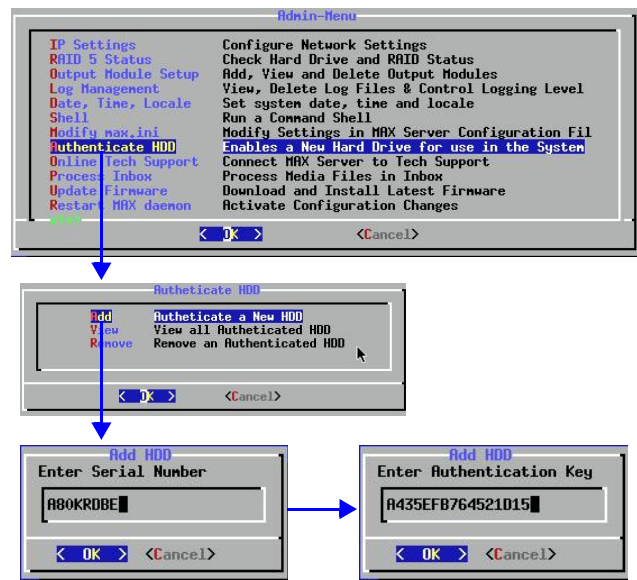

FIG. 5 Admin Menu, Authenticate HDD, and Add HDD dialogs
3. After a brief delay, the *Admin Menu* is displayed (FIG. 5).
Use the other options in the *Authenticate HDD* menu (accessible via the Admin Menu on the MMS), to manage all HDDs in the server, as shown in FIG. 5.